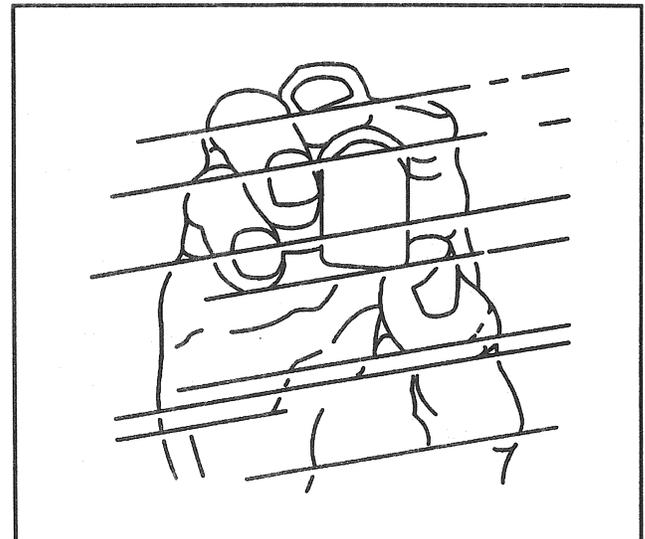

Figure 6—Mounting the Button
3. Immediately apply the button to the windshield, ensuring it is the right way up, and hold firmly for a minute. Allow to set for fifteen minutes (Figure 6).
Install or Connect (Figures 6 through 9)